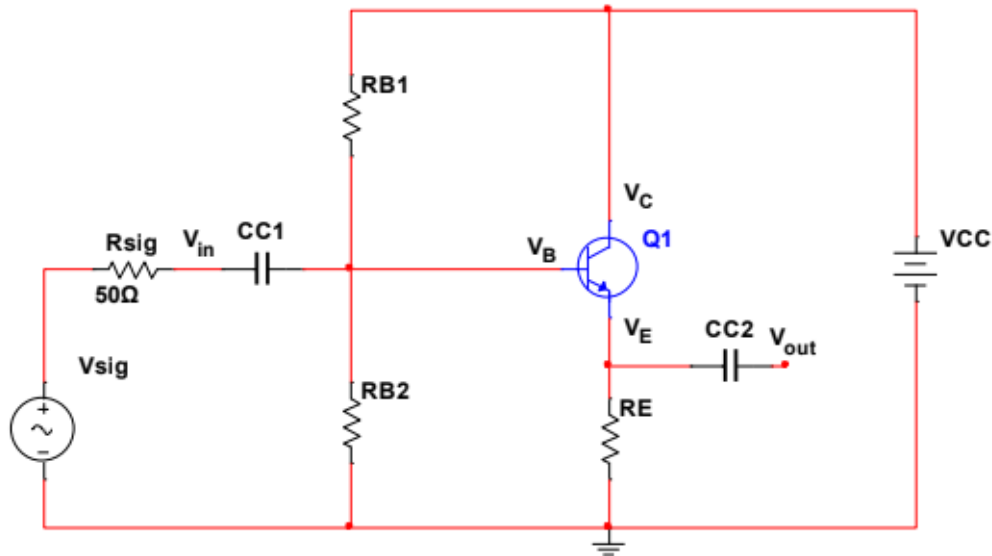

Figure 1.1 – Common-Collector Amplifier
1. **Before building** the circuit in **Figure 1.1**, **measure** the exact resistances of **all** resistors using the DMM. **Record** these values.
2. **Build** the circuit in **Figure 1.1** using transistor 2N3904 and the resistor values found in the prelab.